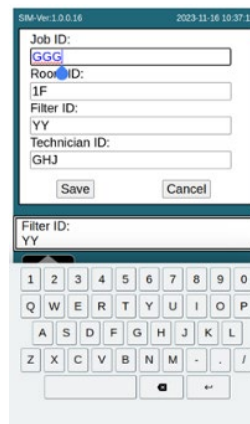

Figure 9. Pop-up keyboard
Step 2. Enter the IDs using the pop-up keyboard (Figure 9) and then press “Save”.